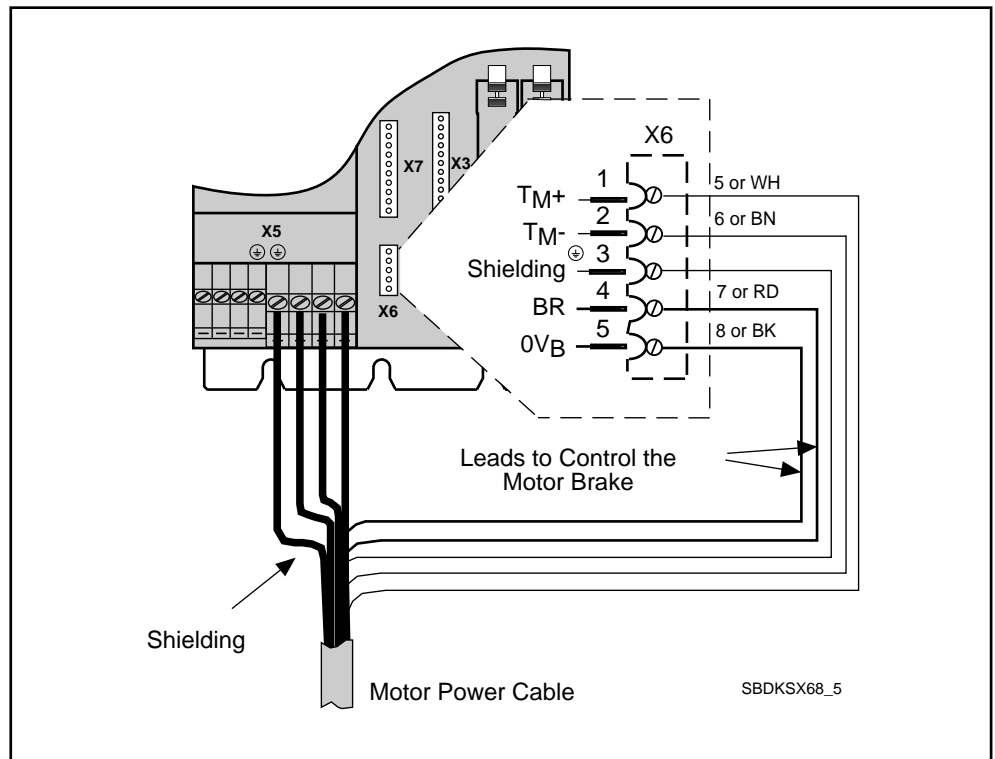
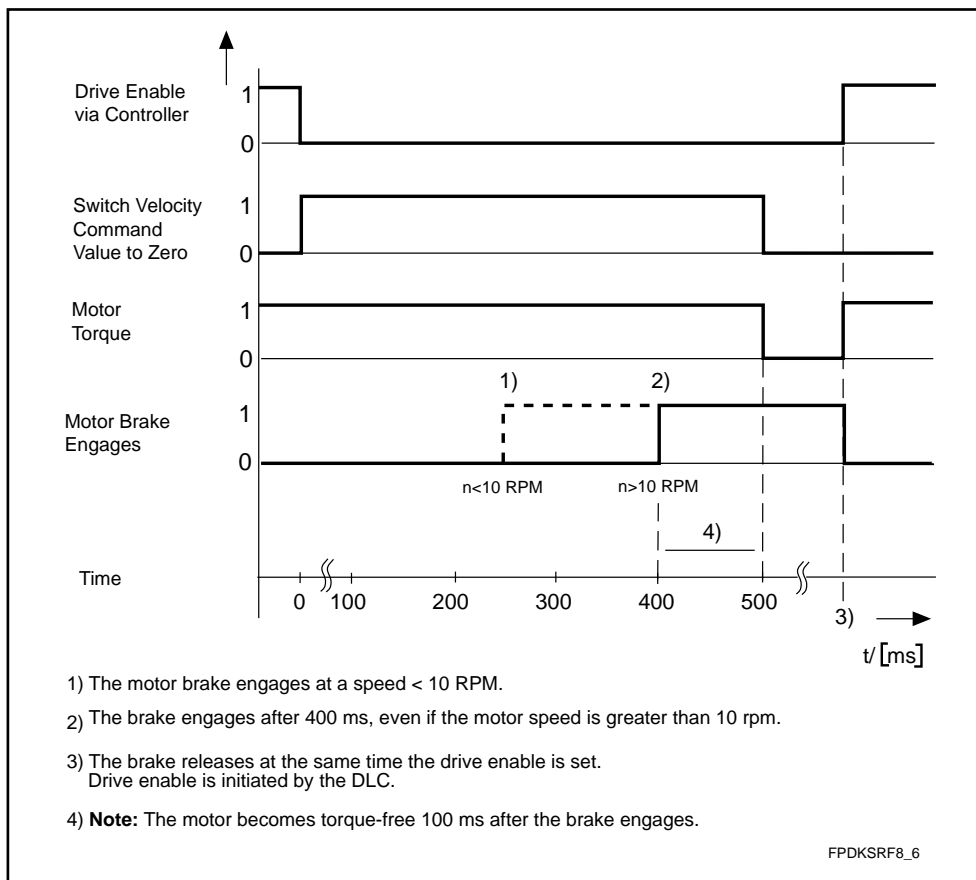
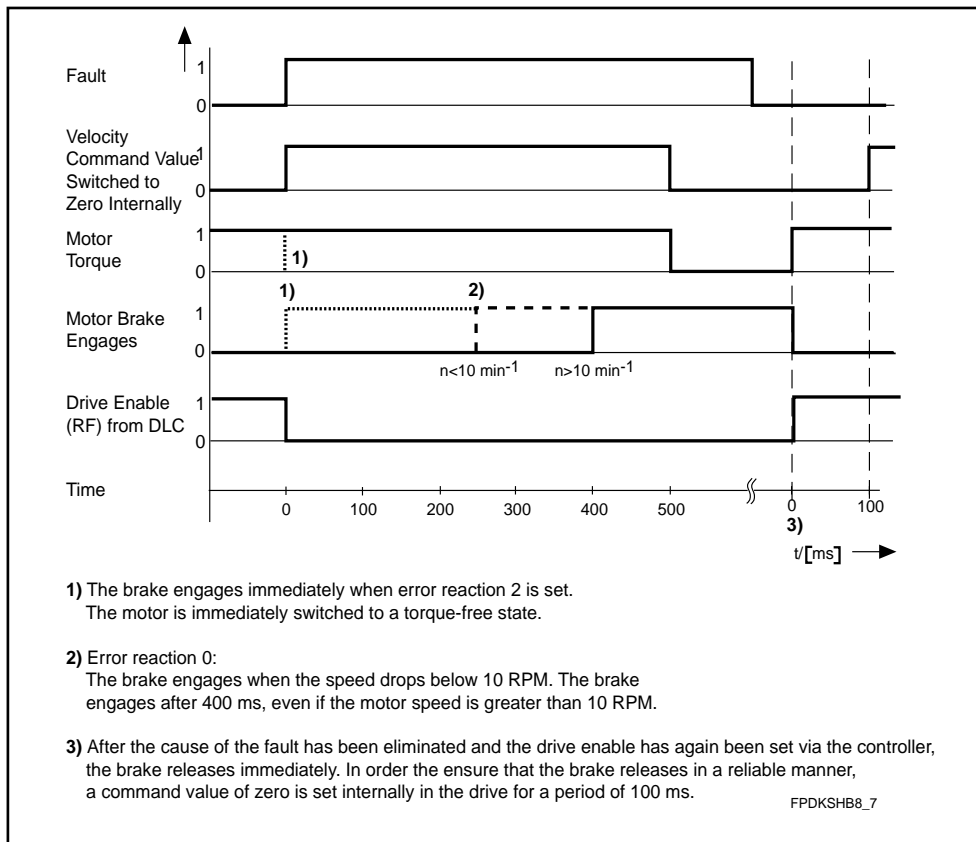

Fig. 8.5: Connecting the brake at connector X6.
Fig. 8.6: Timing diagram for the brake as a function of drive enable from the DLC.
Fig. 8.7: Timing diagram of brake responses based on drive fault reactions.
When no current is applied to the motor brake, a force is applied against the brake/anchor disc on the servo motor. This reliably holds the axis in position. The brake is controlled by the servo drive and depends on the status of the drive enable signal, which is applied by the DLC (see Fig. 8.6), and on the selected error reaction (see Fig. 8.7). Voltage is supplied to the brake via a 24-V DC source (see Fig. 8.5) supplied internally from the DKS. The DC voltage is high enough to ensure that all brake types supplied by INDRAMAT can be actuated.
7. Connect the wires to X6 as shown in Fig. 8.5.